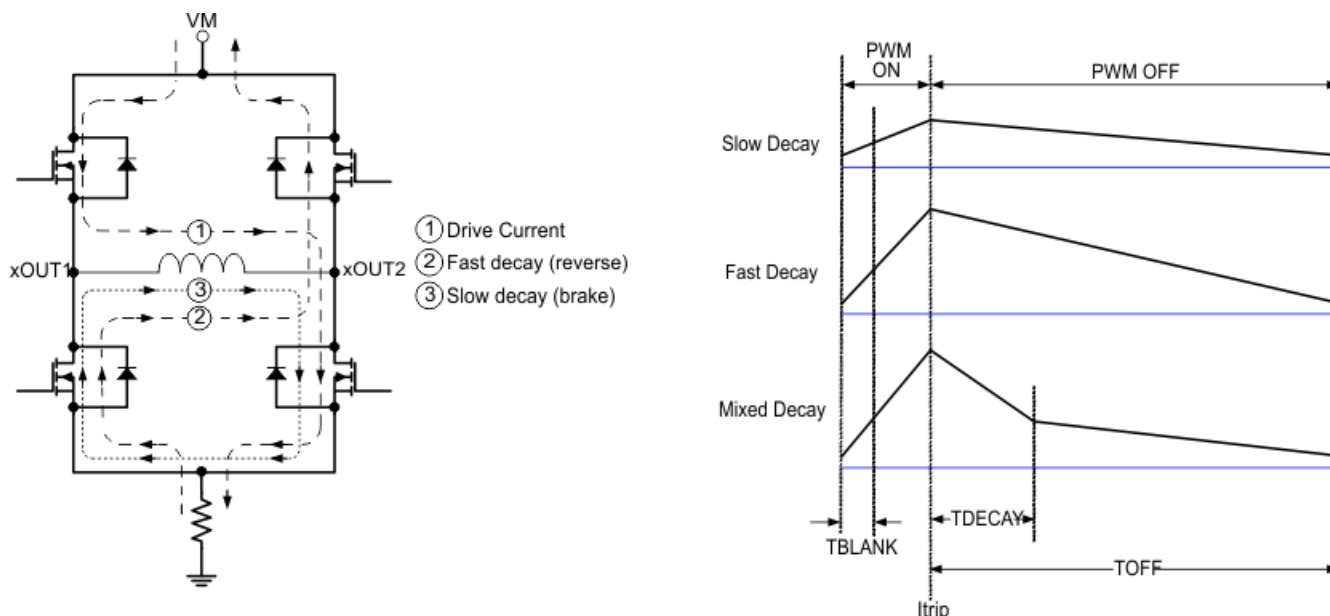

Figure 7. Decay Modes
During PWM current chopping, the H-bridge is enabled to drive through the motor winding until the PWM current chopping threshold is reached. This is shown in Figure 7, Item 1.
Once the chopping current threshold is reached, the H-bridge can operate in two different states, fast decay or slow decay. In fast decay mode, once the PWM chopping current level has been reached, the H-bridge reverses state to allow winding current to flow in a reverse direction. The opposite FETs are turned on; as the winding current approaches zero, the bridge is disabled to prevent any reverse current flow. Fast decay mode is shown in Figure 7, item 2. In slow decay mode, winding current is re-circulated by enabling both of the low-side FETs in the bridge. This is shown in Figure 7, Item 3.